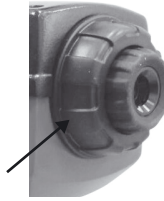

Figure 11
a) Aim the instrument at the staff B and remove the eyepiece cover (Figure 11).